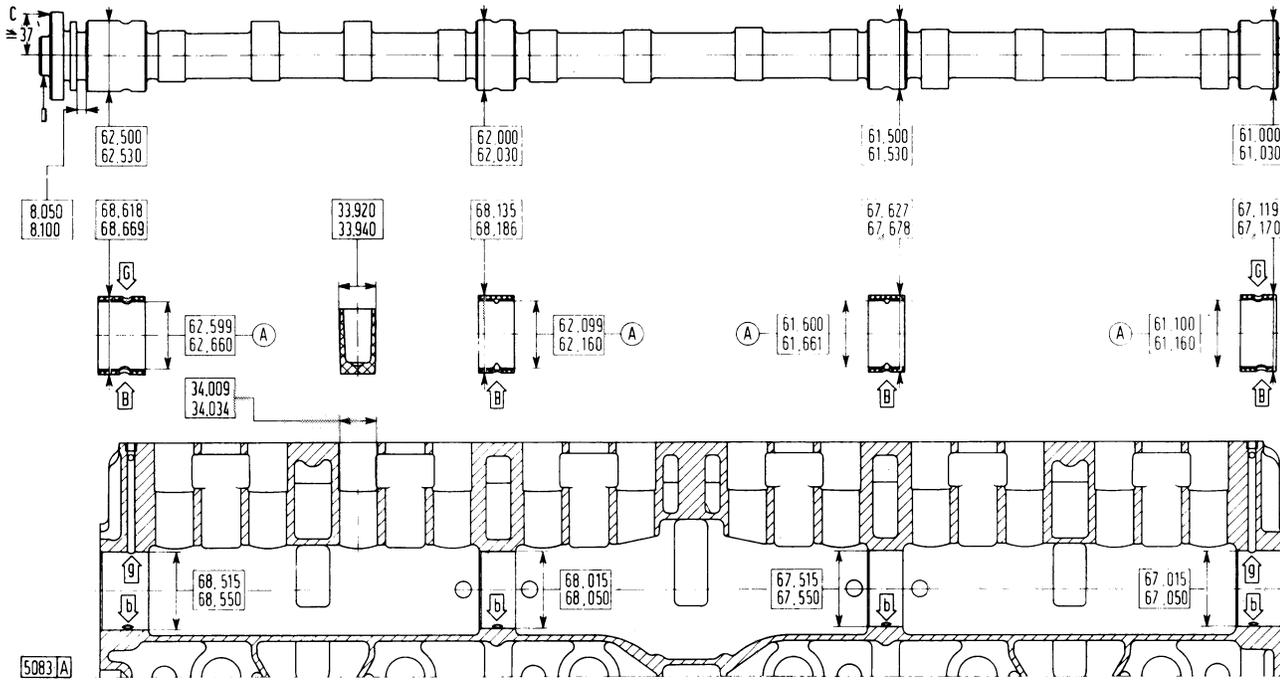

Fig. 15 - Camshaft, bushing, tappet and housing details.
- Reposition the bushings so that the retaining screws register with the associated holes and ensure that holes (**B** and **G**, Fig. 15) coincide with the block lubricating ports (**b** and **g**) respectively.
Check both camshaft journals and bushings (Fig. 15) for wear and excessive running clearance (see Data Table, Chapter 10).
- Place the camshaft with two end journals over V-blocks and rest the stylus of a dial gauge on the flange face at approximately 37 mm or 1.5 in from the centerline (**C**, Fig. 15).